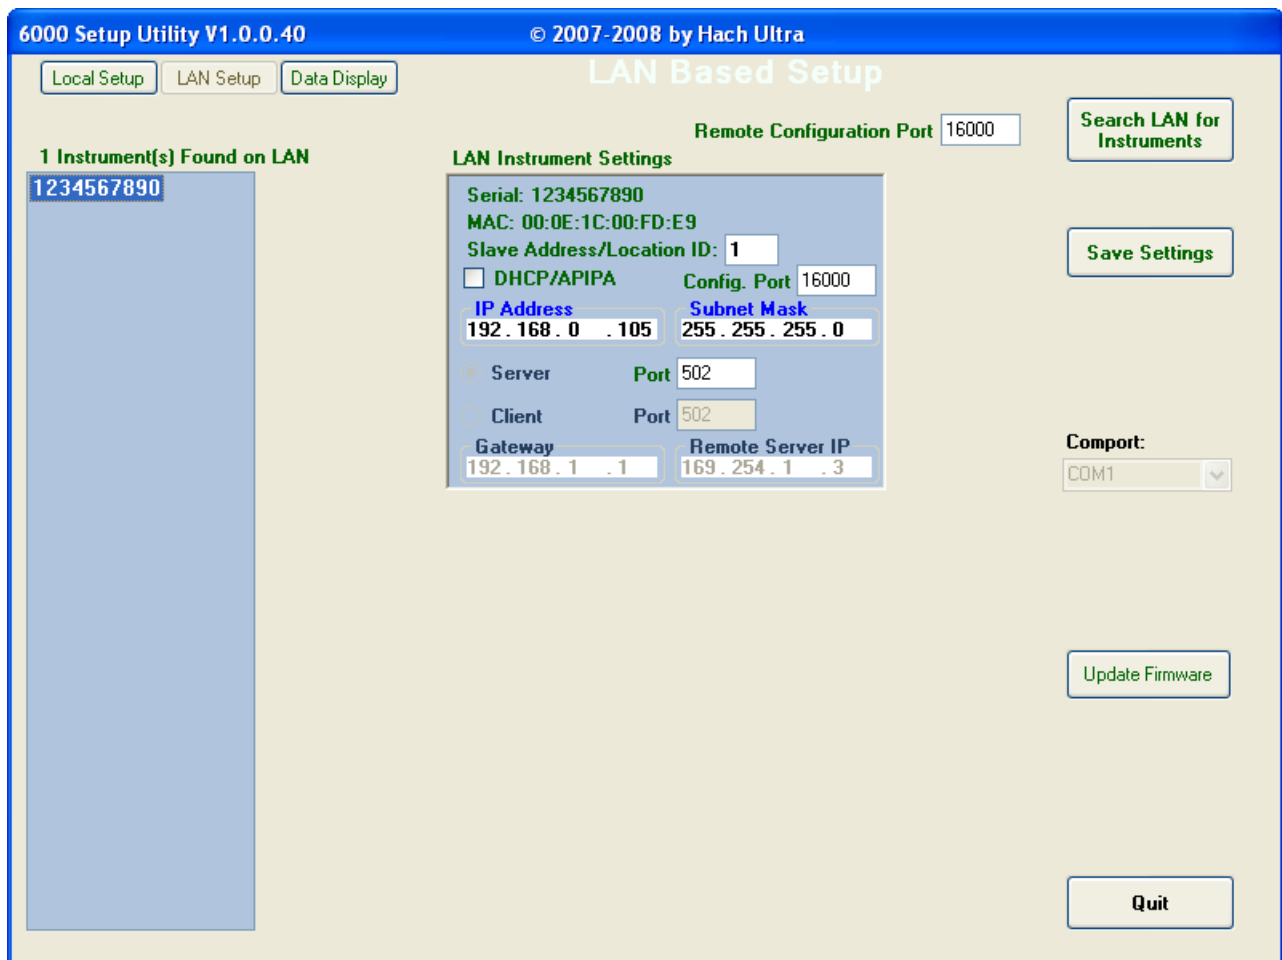

Figure 24 LAN setup for Ethernet units
1. In the utility program, select **LAN SETUP**. The LAN Based Setup window will be shown (Figure 24). The software will search for LAN instruments.
2. If LAN instruments are found, the instruments will be listed as shown in Figure 24. Select an instrument to show the LAN Instrument Settings.